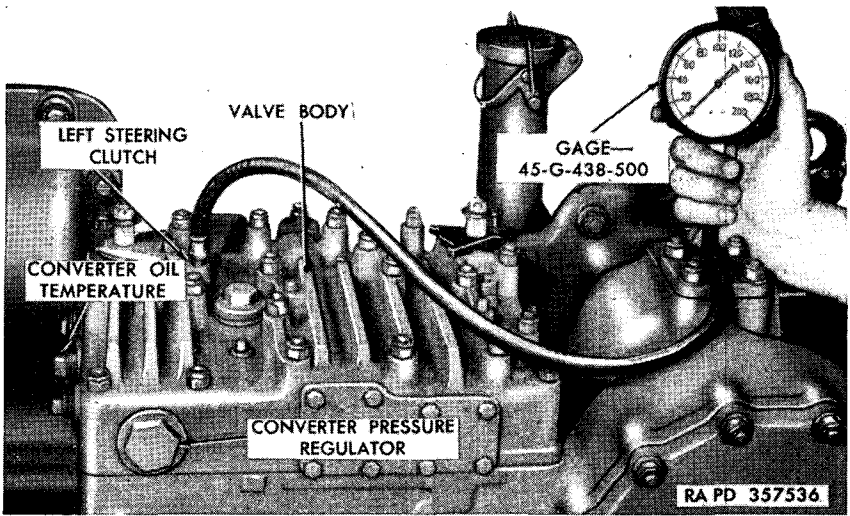
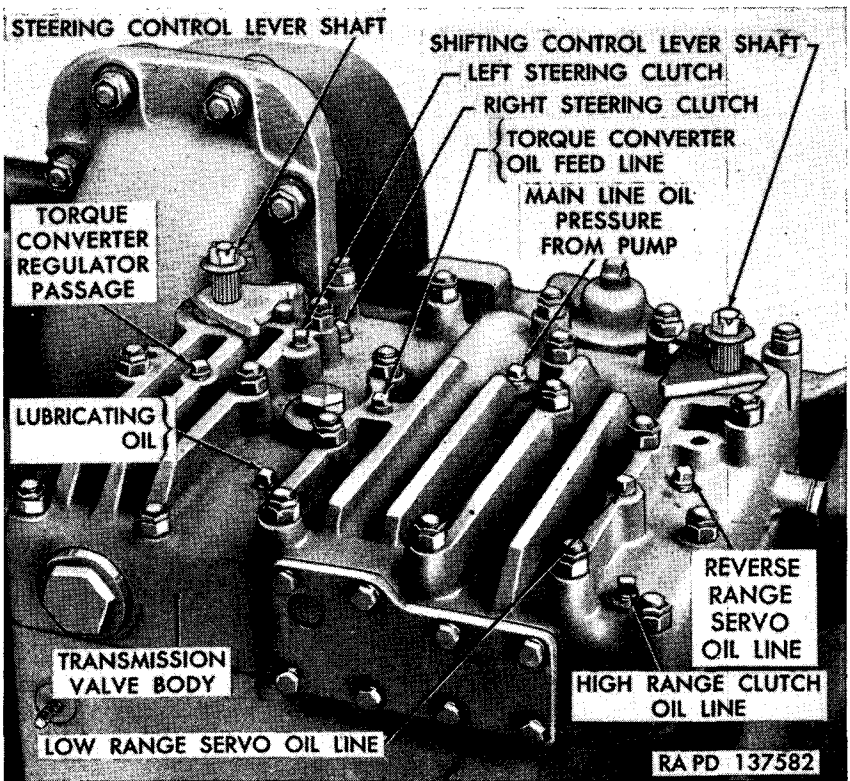

Figure 224. Checking transmission oil pressure.
Figure 225. Transmission oil pressure and test points.
d. CHECK TRANSMISSION OIL PRESSURE. Transmission oil pressure may be checked, using the transmission oil pressure gage 45-G-438-500 (fig. 224). No external adjustments can be made to correct improper oil pressures. Plugs to be removed, so that the gage adapter can be inserted into the various oil circuits, are located on top of the transmission valve body. Figure 225 indicates the locations of the plugs to be removed and table VIII indicates the normal and allowable ranges of oil pressures. To perform the tests, run engine at 1,600 rpm, with engine idling smoothly without misfire, with manual control lever in shift and steer positions as indicated.